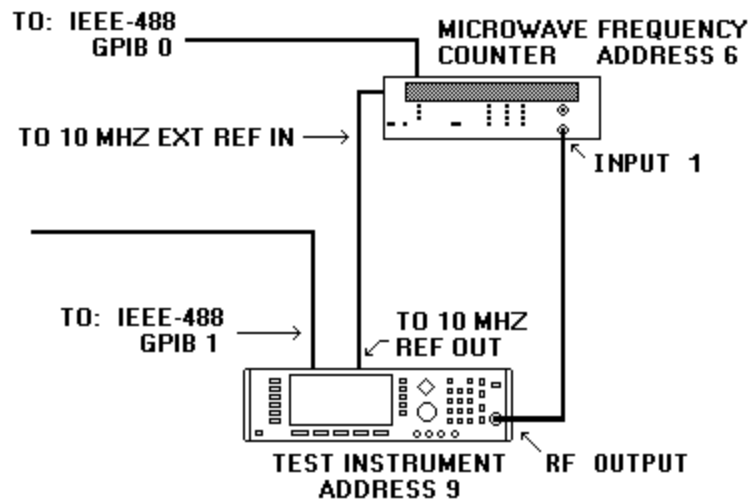

Figure 2. Frequency accuracy hook-up.
- (1) Connect equipment as indicated in figure 2.